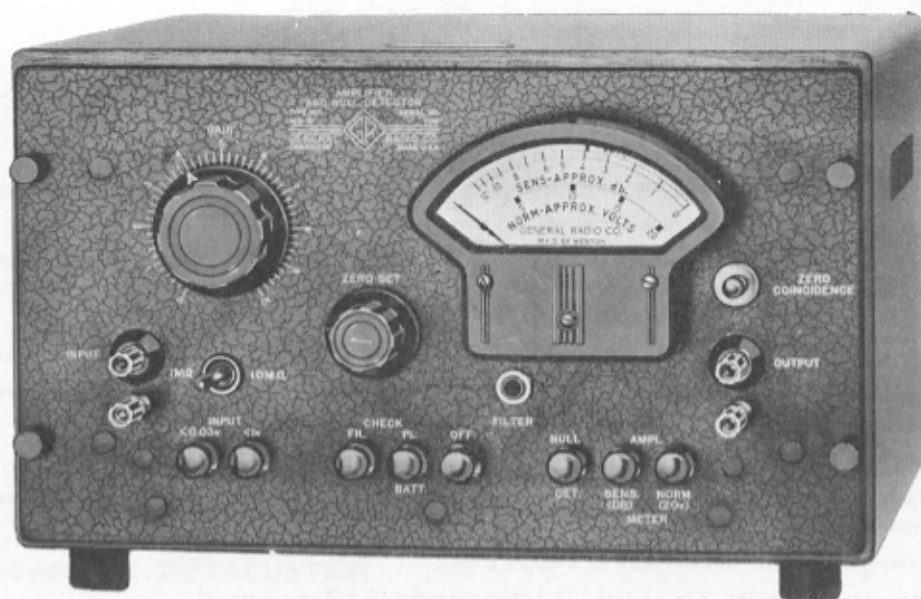

Figure 1. Type 1231-B Amplifier and Null Detector.
1.1 PURPOSE. The Type 1231-B Amplifier and Null Detector (Figure 1) is designed for use as a high-gain amplifier, as a sensitive null indicator for bridge measurements, and as a standing-wave indicator for measurements with the Type 874-LBA Slotted Line. Used with a suitable crystal detector, it will indicate amplitude-modulated high-frequency voltages, and is also useful as a preamplifier for crystal microphones, vibration pickups, and oscilloscopes.